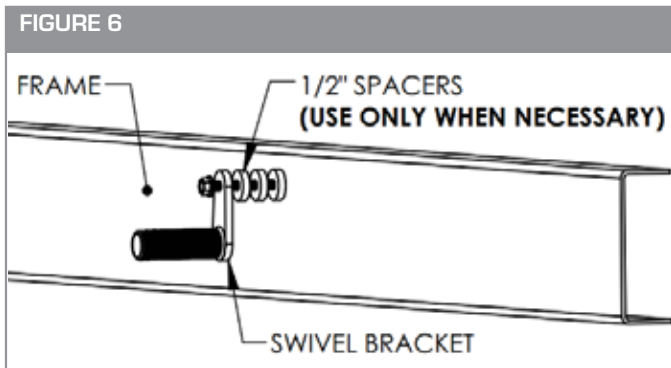

FIGURE 7
- A. Once the brackets are in position with the fender, tighten the 5/8" x 4-1/2" bolt that goes through the (10001472) swivel bracket to attach the swivel securely to the frame. (See Figure 7)